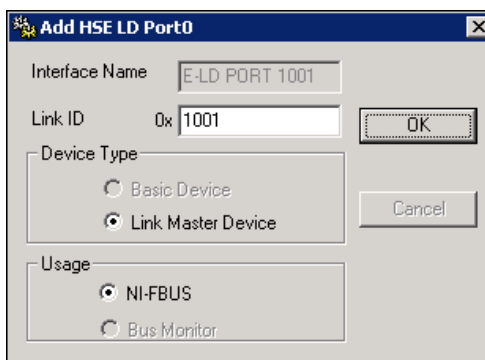

Figure 2-4. HSE Linking Device Port Properties
3. The NI-FBUS Interface Configuration Utility displays the default interface name and some configuration information as shown in Figure 2-4.